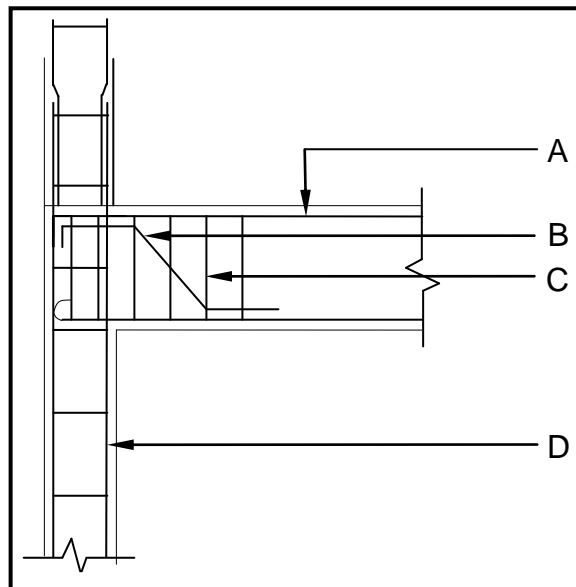

FIGURE 2.8
- 2.8 FIGURE 2.8 below shows the front elevation of the reinforcement of a beam and column.